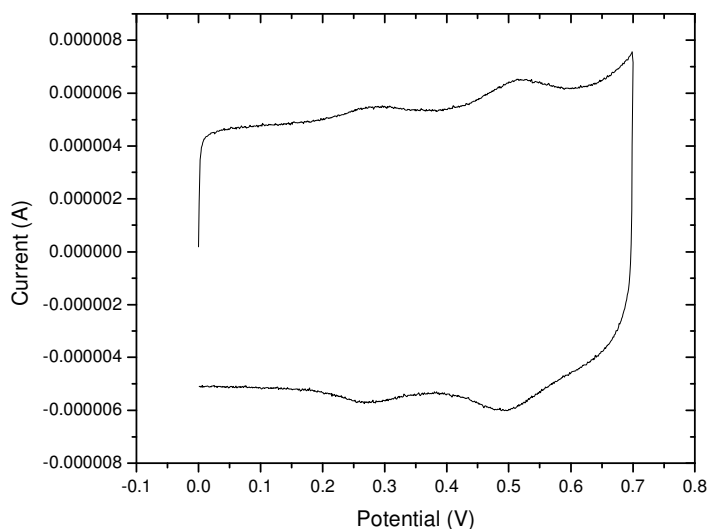

Figure 1.
4). Next, the user has to input the lower limits and the upper limits of the forward and backwards scans to designate the portions on which the fitting is to be performed. For the above example, one wants to select the region of the data that is reasonably linear in order to estimate the intercept and slope parameters. Fig. 1 shows an example CV trace. Reasonable limits for the forward trace could be 0.05 V to 0.15V, for the reverse trace they could be 0.0 V to 0.15V. The limits should be chosen so as to avoid the initial rise in current at the beginning of the forward and reverse traces, which the program is not designed to fit.
Note that all parameters are now being used (4th column). In the 3rd column, the intercepts of the forward and reverse half waves have been fixed, as from experience these are pretty well optimized from the prior fit of the linear baseline portion. Also, all peak potentials were fixed, as these can be estimated quite accurately from the experimental CV (Figure 1). The curved part of the baseline on the reverse trace was assumed to be the same as that on the forward trace, as indicated by the "2"s in the 3rd column and the corresponding proportionality factors of 1 in the 5th column. This still leaves 11 parameters to be fit. From these, the initial guesses for the two slopes are as determined from the linear baseline fit. The initial guesses for the peak width parameters of the two tags are estimated from the theoretically expected nF/RT value (n: number of electrons involved in oxidation/reduction of the peak – assumed to be 1; F: Faraday's constant). If n is other than 1, the nF/RT quantity should be appropriately adjusted. Also, order of magnitude estimates have been entered as initial guesses for the four tag prefactors. These can be derived from a back-of-the-envelope estimate of the experimental peak areas and the nF/RT estimate for tagwidth using the formula (derived from eqn 2)